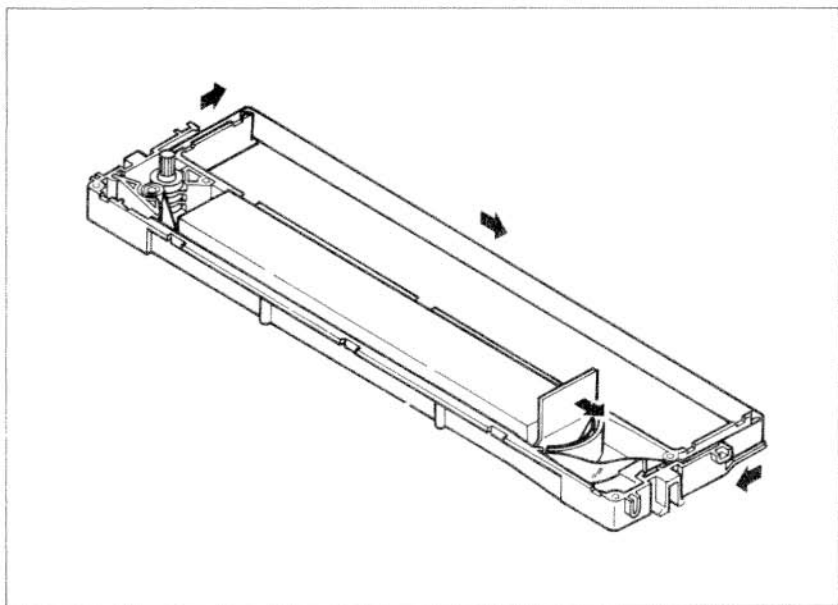

Figure 8-3. Make sure that the ribbon is not twisted when you thread it through its path.
- Pull out the ribbon and thread it as shown in Figure 8-3. It's easy for the ribbon to get twisted along its path, so be careful.